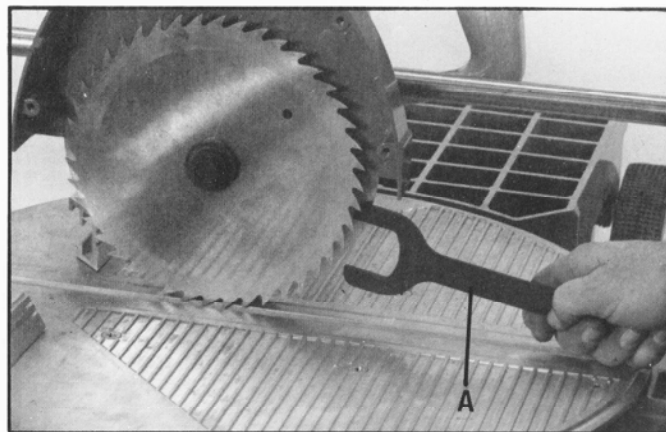

Fig. 49
2. Insert end of wrench (A) Fig. 49, between the blade and inside guard and onto the flats of the inside blade flange.